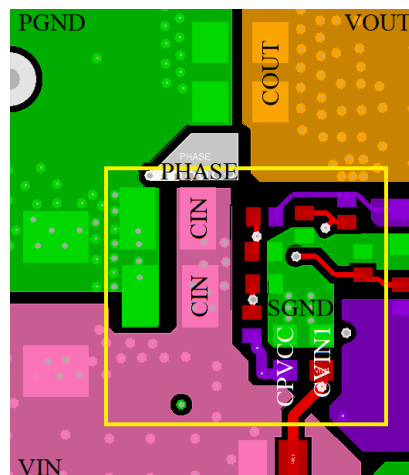

Figure 47. Layout Example - Bottom Layer
- Place the PVCC and VIN1 bypass capacitors underneath the PVCC and VIN1 pins and connect their grounds to the SGND. For the external pin-strap resistor dividers connected to SET1, SET2, SET3, and SET4, connect the low side dividers' ground to the SGND. If a local decoupling capacitor is used to bias these resistor dividers, place the decoupling capacitor close to the dividers and connect the capacitor's ground to the SGND. An illustrative layout example is shown in Figure 47.